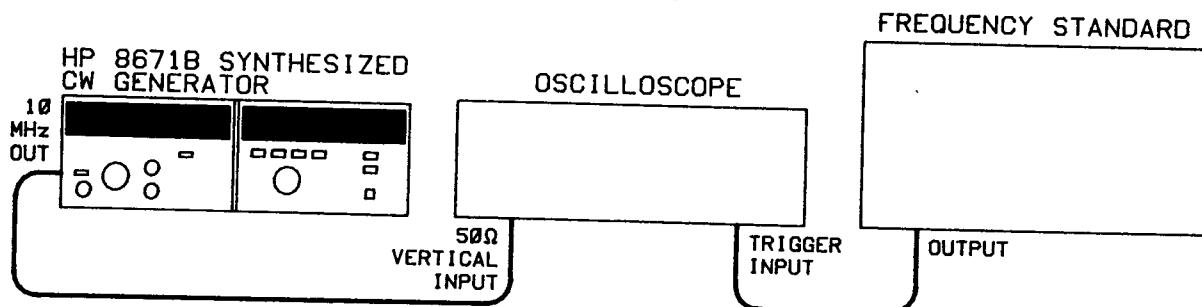

Figure 4-13. Internal Time Base Aging Rate Test Setup
- Connect the equipment as shown in Figure 4-13.